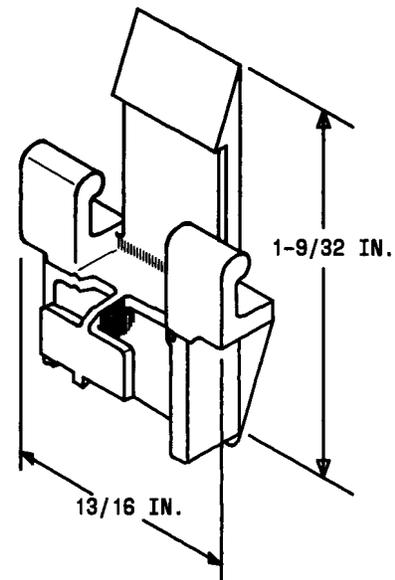

Fig. 1—B Siding Clip
- 2.01 The clear molded plastic siding clip (Fig. 1) is designed for fastening drop wire and station wire on aluminum house siding.